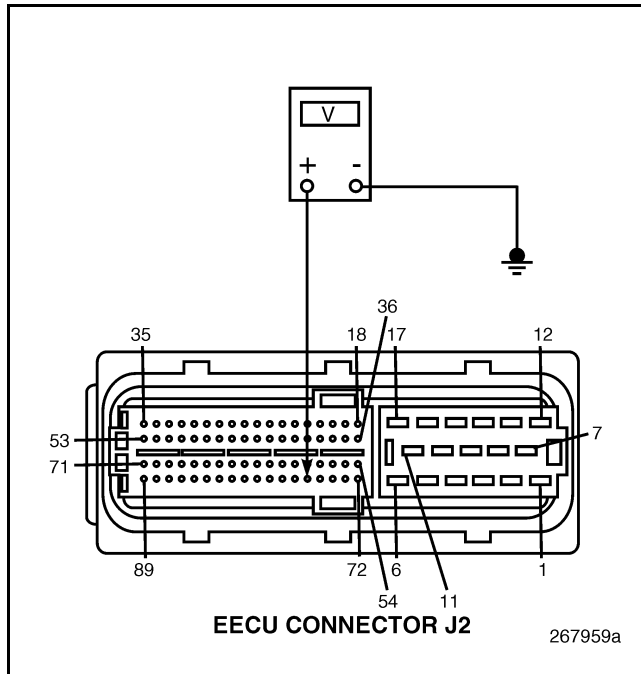

Figure 408
3. Disconnect the Engine Position (EP) Sensor connector.
5. Measure the voltage between EECU connector J2 pin 76 and a good ground (see Figure 408).